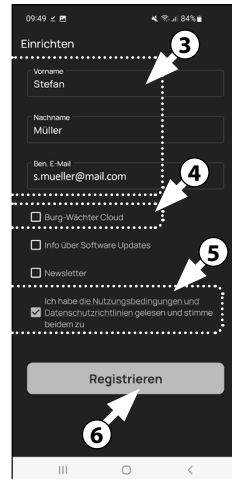

Fig. 3
- 3 Enter your name and a mail address (Fig. 3).
- 4 Select them the item: "*BURG-WÄCHTER Cloud*" this is not required for the setup and can therefore be ignored for the time being (Fig. 3). An explanatory note on this subject can be found in the master operating instructions on our website (see link on the title page).
- 5 Read through and agree to the terms of use and privacy policy (Fig. 3).
- 6 Tap on "Register" (Fig. 3).